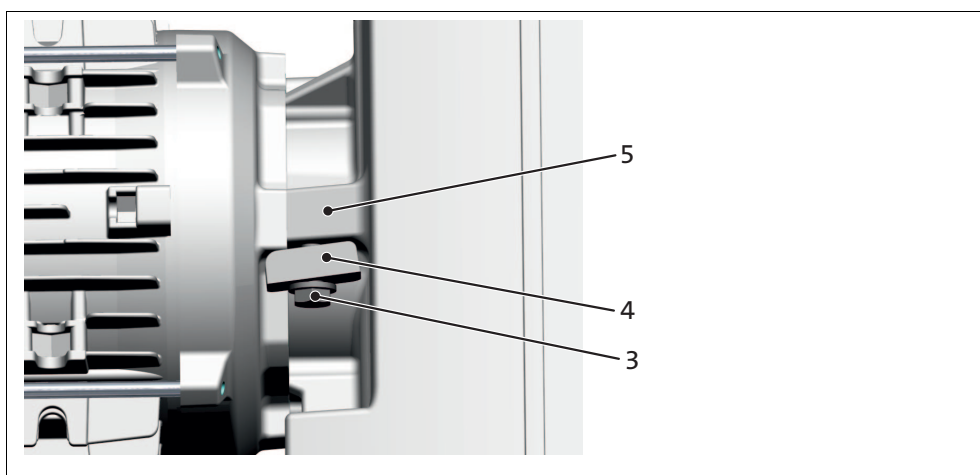

Fig. 4 Mounting on the opposite side (start of screw tightening process)
1. Fit retaining clip with the securing screw on the opposite side of the securing cam, Fig. 4.